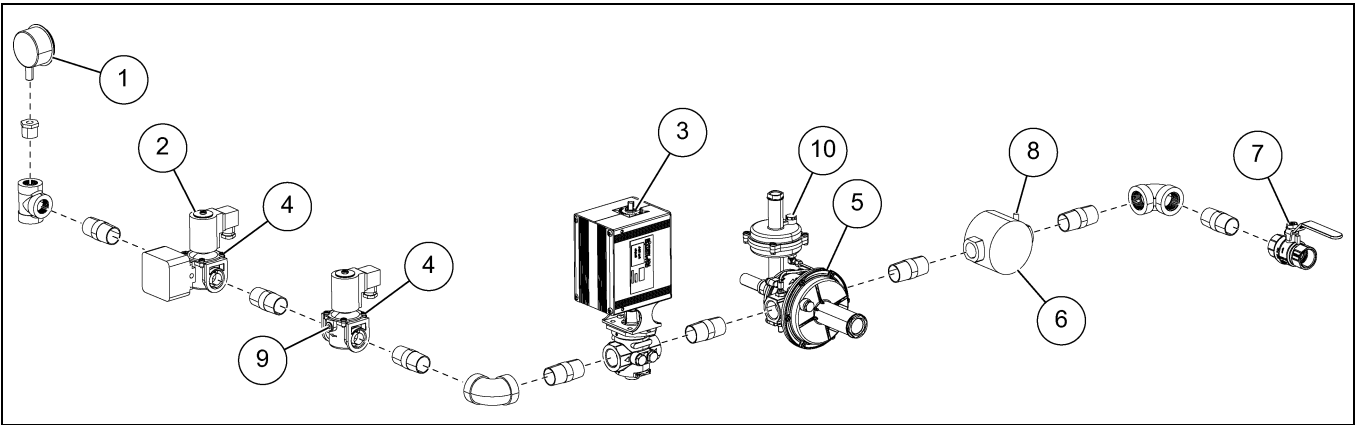

Figure 4N Fuel Train
1. Remove cover (1) from regulator adjuster.
3. Open pressure test point and fit manometer. (See Ref #9 in Figure 4N on Page 30.)
6. Re-fit adjuster cover and close test point. (See Ref #9 in Figure 4N on Page 30.)
3. Note the pressure on the pressure gauge. (See Figure 4N on Page 30.)